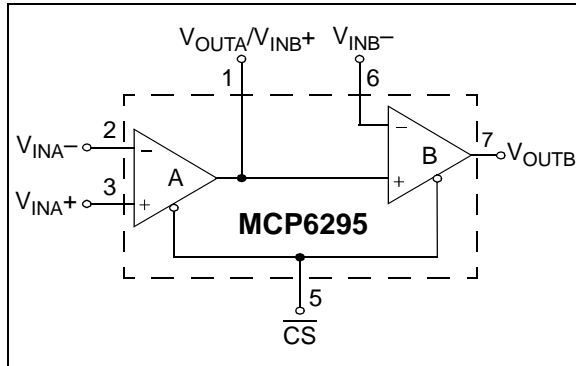

FIGURE 3-4: Cascaded Gain Amplifier.
The MCP6295 is a dual op amp with chip select (\overline{CS}). The chip select input is available on what would be the non-inverting input of a standard dual op amp (pin 5). This feature is provided by connecting the output of op amp A to the non-inverting input of op amp B, as shown in Figure 3-4. The chip select input, which can be connected to a microcontroller I/O line, puts the device in Low Power mode. Refer to **Section 3.3 “MCP6283/5 Chip Select (CS)”**.